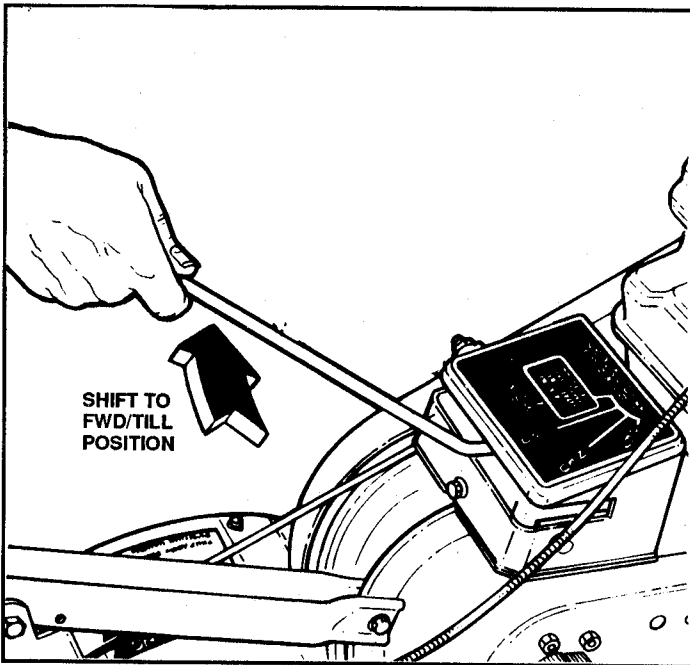

FIGURE 8
4. **BEGIN TILLING** shift transmission lever to FWD/TILL position. Step behind tiller and lift up on WHEEL & TINE CONTROL to start tilling. See Figure 8.